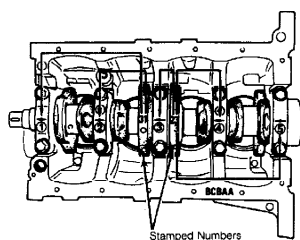

Fig. 17: Locating Numerical Marks On Crankshaft Webs (SOHC)
6) On SOHC engines, main bearing journal diameter is determined by numerical mark ("1", "2" or "3") stamped on crankshaft webs of cylinders No. 2 and 3. See Fig. 17. On DOHC engines, numerical mark ("1", "2" or "3") is stamped crankshaft web of cylinder No. 1. See appropriate CRANKSHAFT JOURNAL DIAMETERS table.